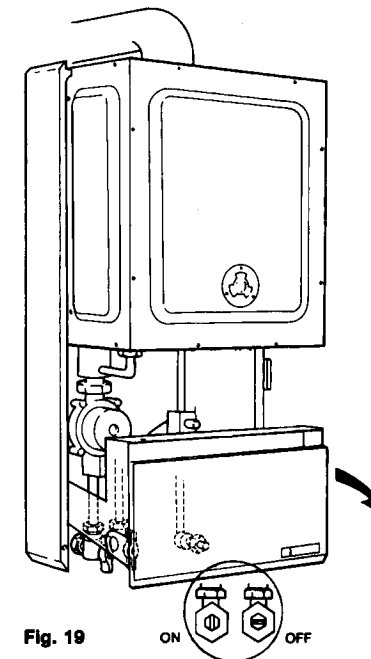

Fig. 19
- 5.7.2 To gain access to the electrical terminals hinge down the spring loaded control fascia. (ref to fig. 19) until it rests in an approximately horizontal position.